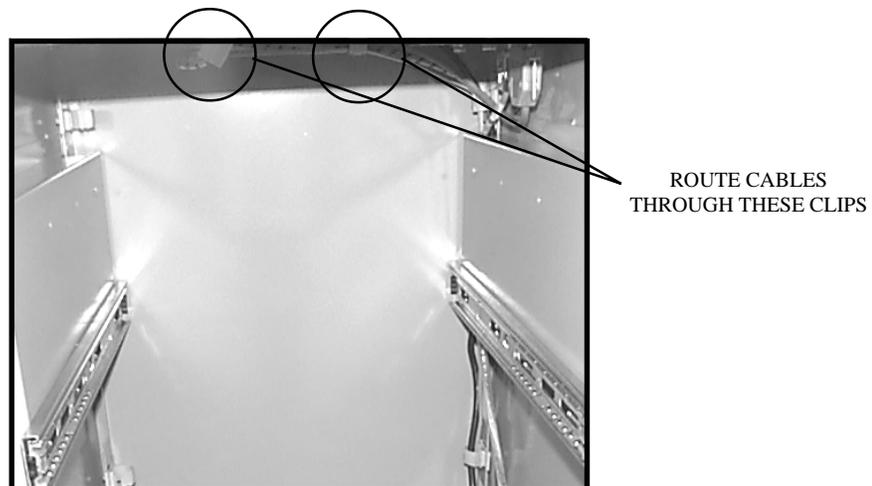

FIGURE 3-7
13. Route the cables through the two cable clips that are attached to the top of the cabinet, near the rear wall. (See Figure 3-7.)